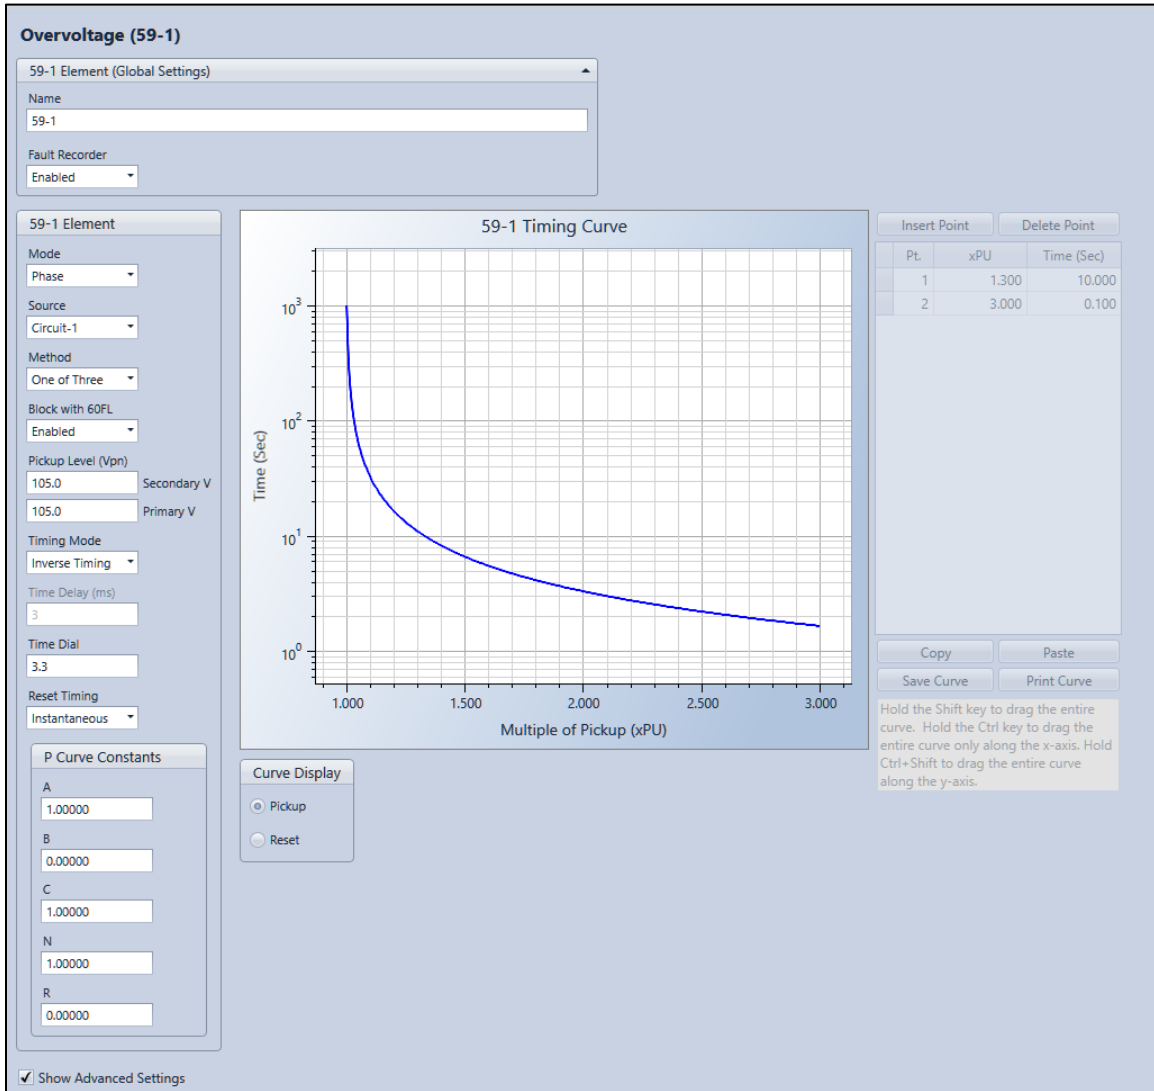

Figure 32-2. Overvoltage Settings Screen
Overvoltage element operational settings are configured on the Overvoltage (59) settings screen (Figure 32-2) in BESTCOMSPPlus.